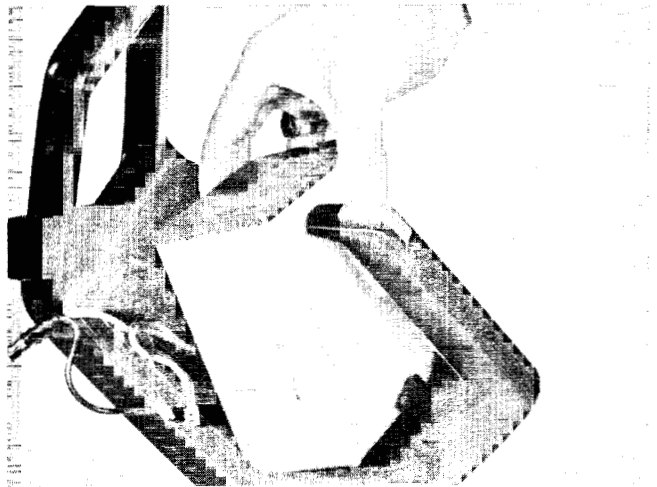

Figure 5.41d
- E. Remove the battery pack (fig. 5.41d).